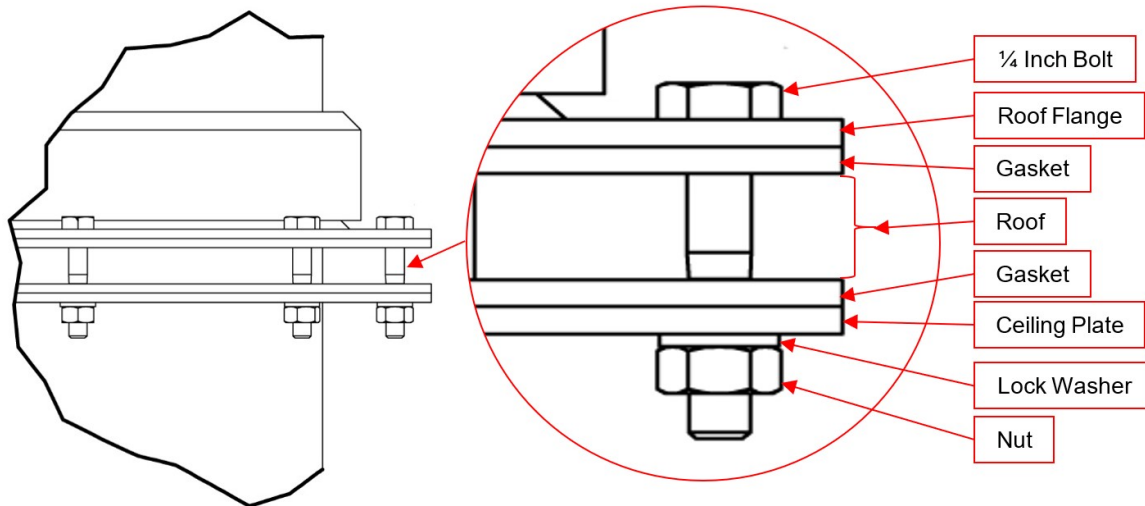

Figure 5-17 Fasten Assembly Together
d. Fasten this assembly (Figure 5-17) together using: